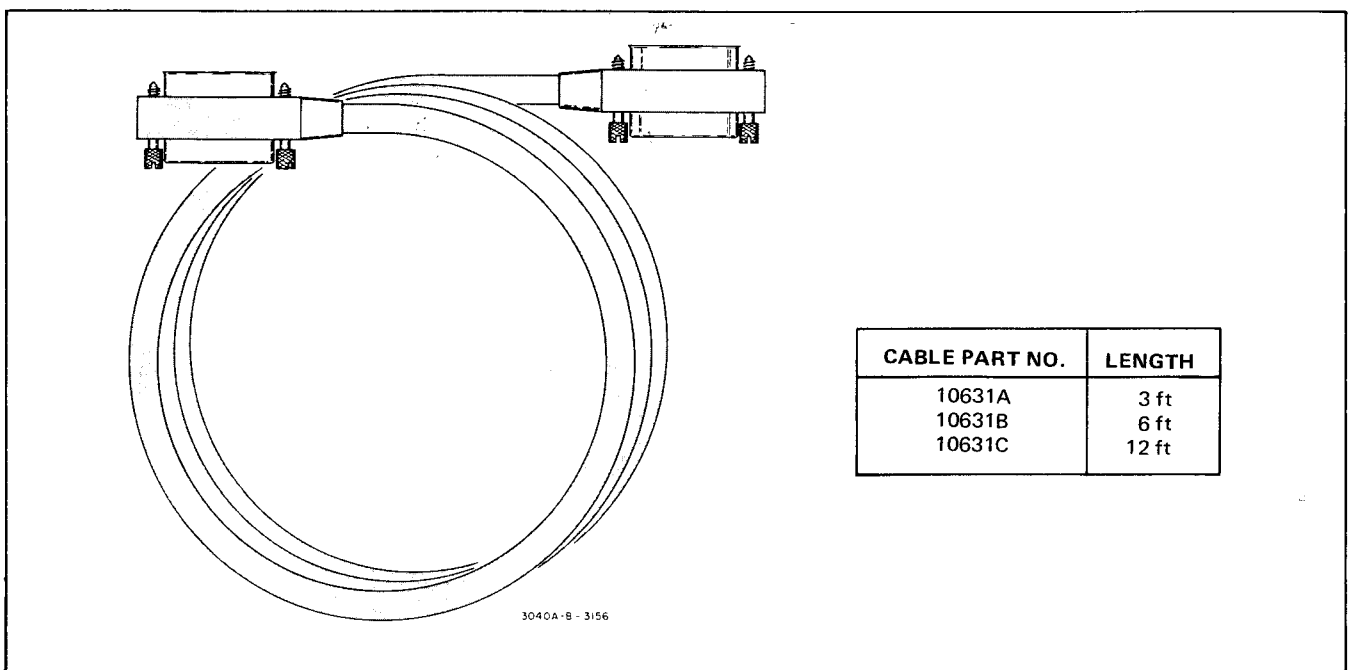
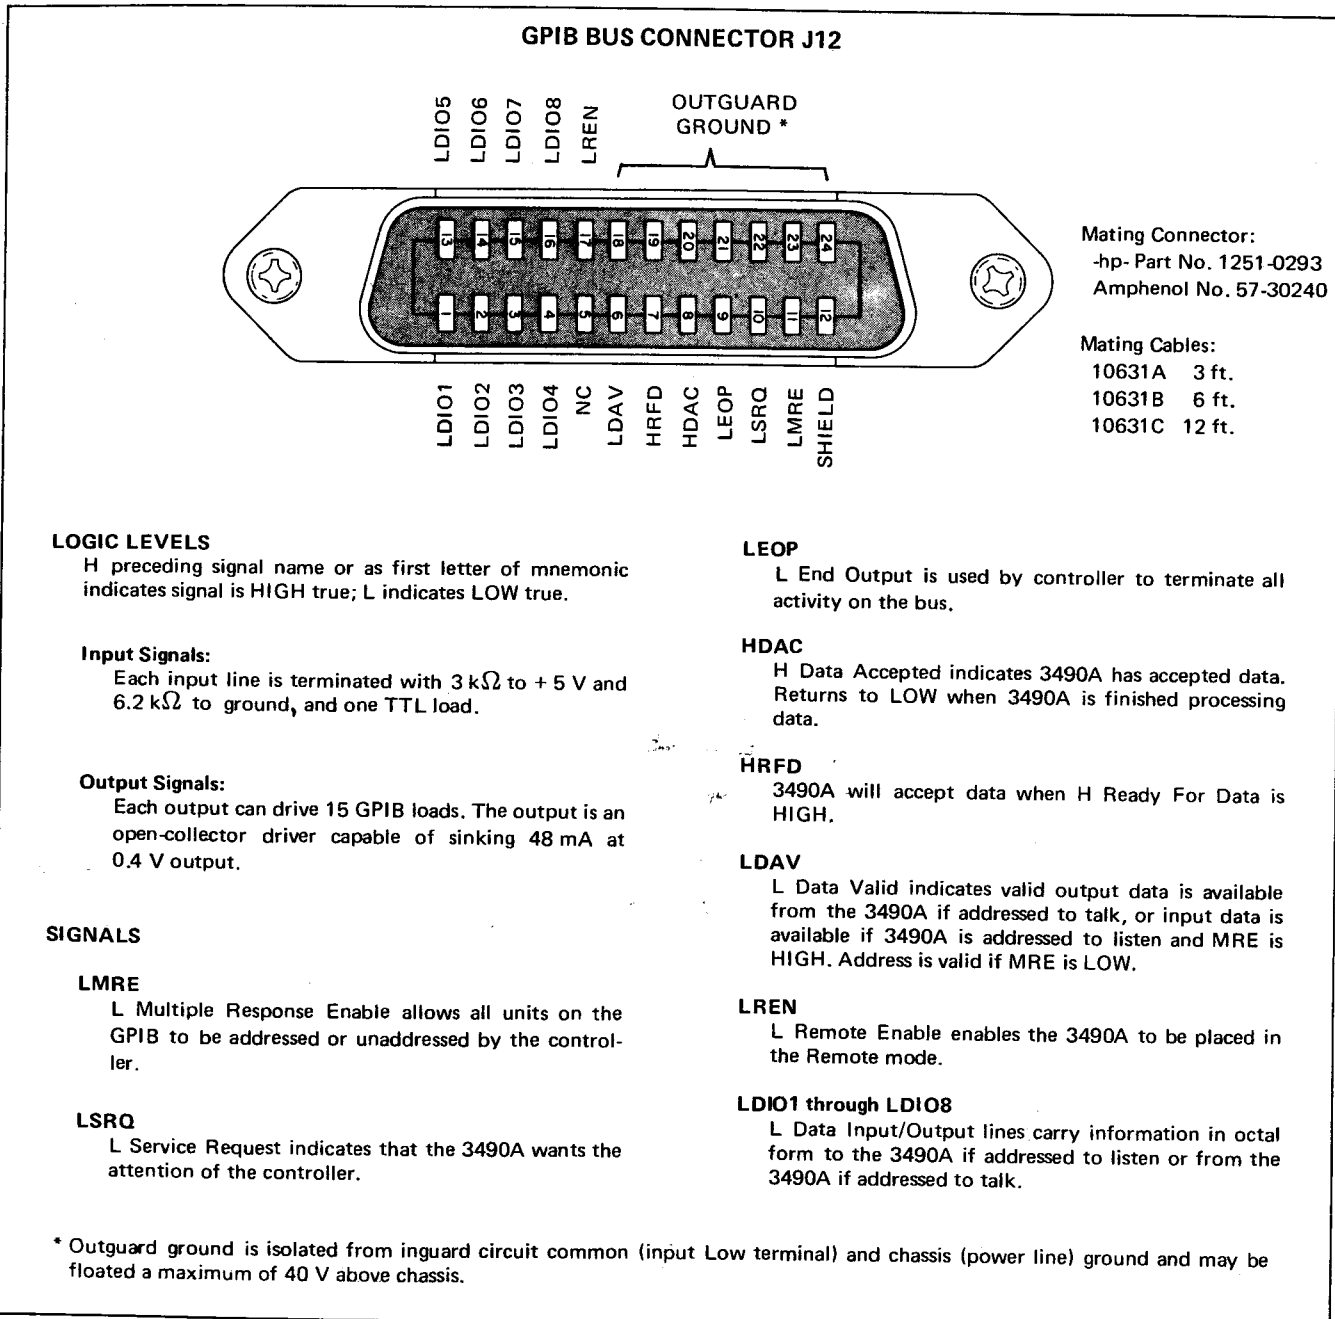

Figure 2-8. Interface Bus Cables.
Figure 2-9. General Purpose Interface Bus Connections.
2-37. Figure 2-9 shows the signal connections at the rear panel GPIB connector, J12, and gives a brief description of each signal. Additional signal information is included in Section III, Operating Instructions (see Paragraph 3-90). The 10631A/B/C Interface Cables shown in Figure 2-8 are used to connect the instruments together. The connectors at either end of the cable are identical and consist of a plug which mates with the instrument rear panel connector or another cable, and a receptacle which will receive another cable plug. Instruments may then be paralleled as shown in Figure 4-20. The dual connector is not available as a separate unit because the hood is molded around the cable. The connectors listed in Table 2-2 mate with the rear panel connector or another cable. These do not provide the thumb screws for securing the connectors.
18. General Purpose Interface Bus connector J12 (Option 030). See Figure 2-9.